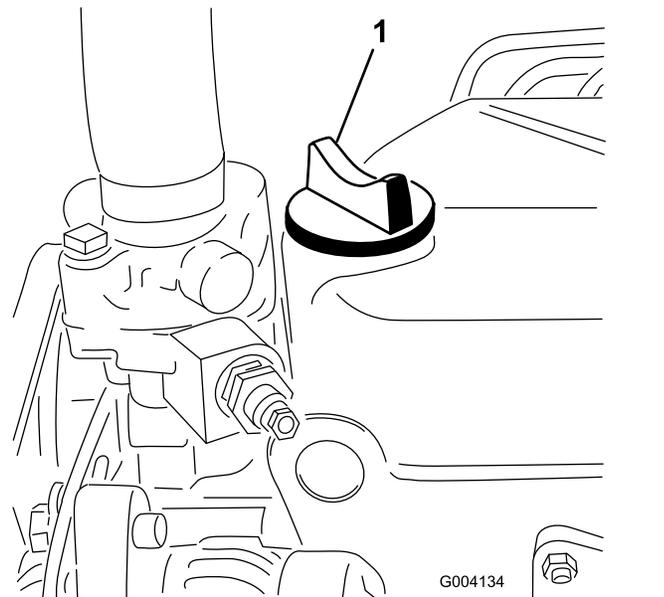

Figure 54
5. If the oil level is below the Full mark, remove the fill cap (Figure 54) and add oil until level reaches the Full mark on dipstick. **Do not overfill.**